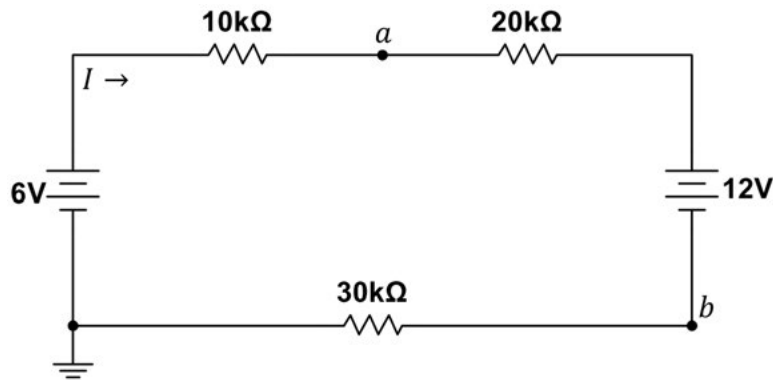

Figure 2.1: Lab 2 pre-lab circuit 1.
1. For the circuit shown in Figure 2.1 below, calculate the current, I , in the loop and V_{ab} .
Use Multisim to draw the schematic shown in Figure 2.1. Simulate your circuit and use a current probe to measure the current in the loop and use the differential voltage probe to measure V_{ab} . Enter those measured values here, and print out your drawing to turn in with this lab.